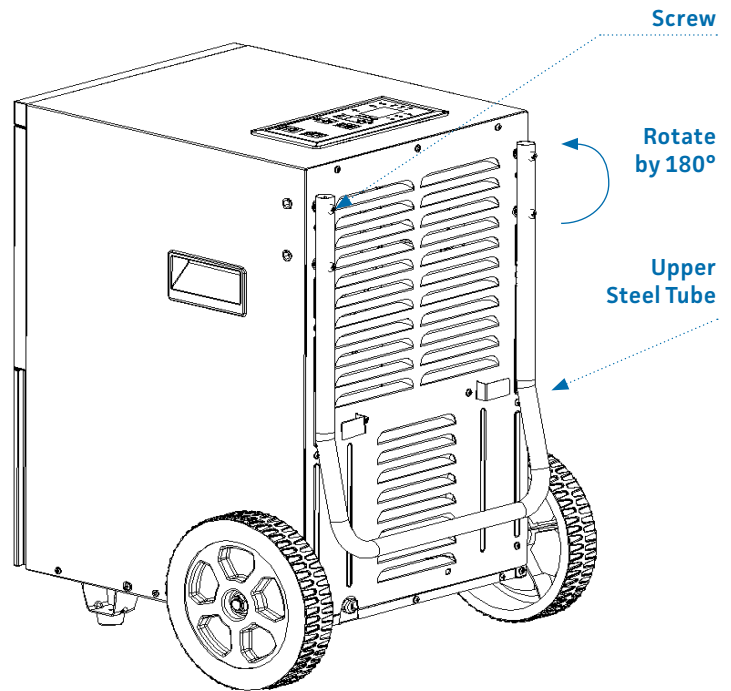

Figure 2
1.Installation Method for the Upper Steel Tube: As shown in Figure 2, unscrew the four screws located above the dehumidifier body, then rotate the upper steel tube upwards by 180°. Secure the upper steel tube in place using the screws that were unscrewed earlier.